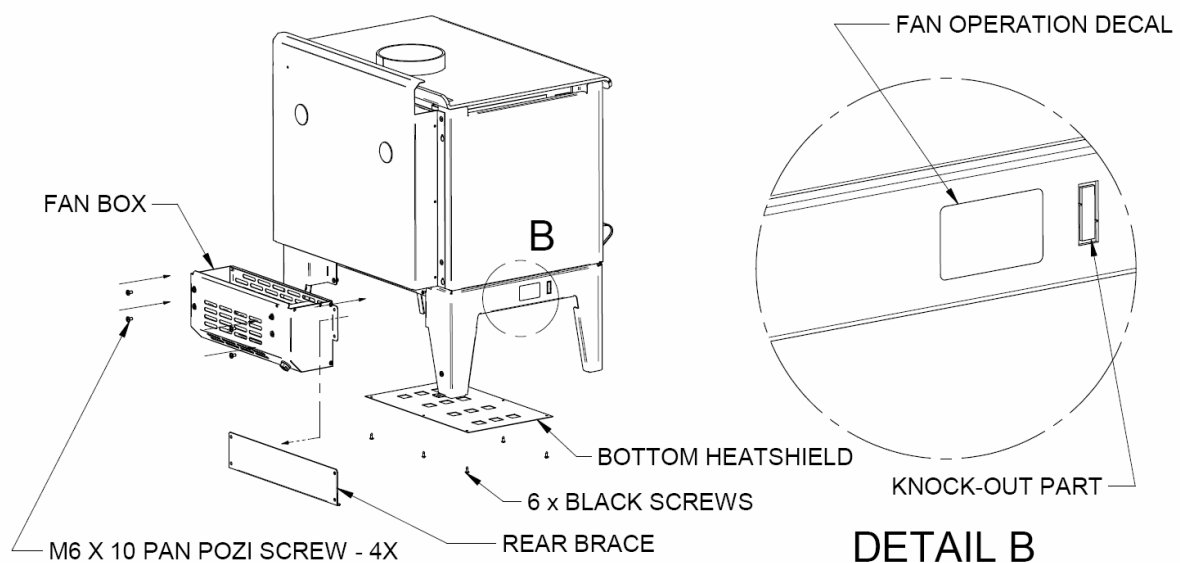

Figure 3. Leg version installation
AUS MODEL - R5000 LEG & NZ MODEL - R5000LEG (Figure 3)
3. Stick the fan operation decal next to this hole. Remove the rear brace from the back of the heater, as shown in Figure 3 and discard this part.
6. Remove bottom heatshield by unfastening 6 black screws ref. Fig 3.
8. Continue to feed the end through the knockout fan switch hole, shown in Fig 3 Detail B.
9. Fasten fan assembly into position and fit to the back of the leg with 4 black screws supplied. For ease of fitment, put the top screws first, then the bottom ones as shown in Fig 3.
13. Refit the bottom heat shield by fastening 6 black screws ref. Fig 3.